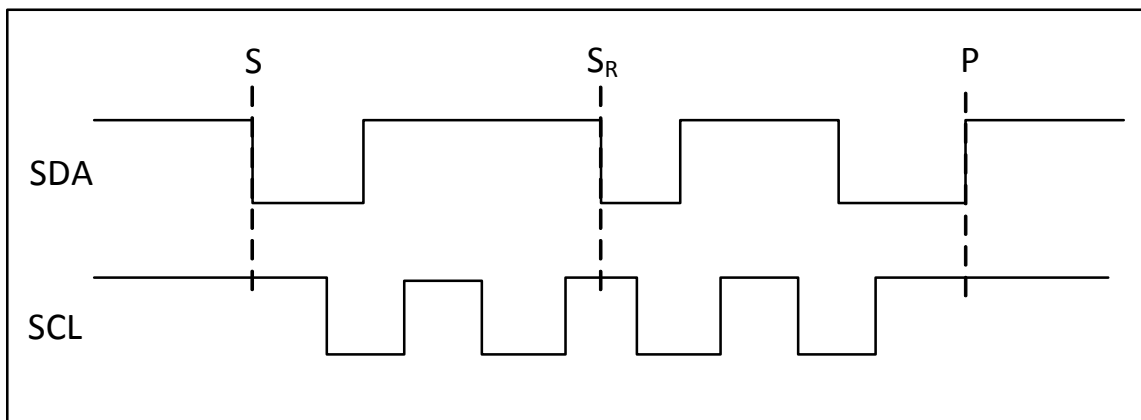
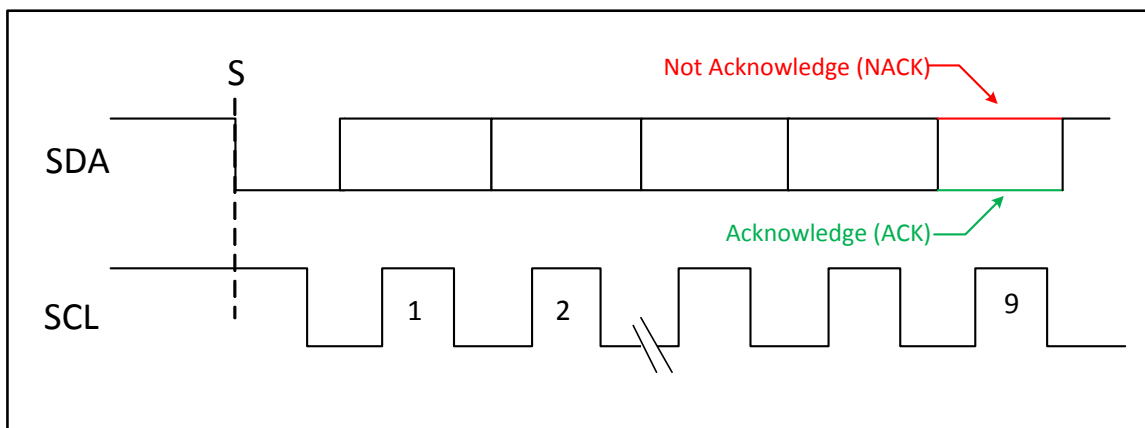

Figure 9. Start and Stop Conditions
Figure 10. Acknowledge Cycle
The I2C/SMBus serial port is a two-wire serial bus where data line SDA is bidirectional and clock line SCL is unidirectional. Reads and writes to this interface by the master are byte-oriented, with the I2C/SMBus master controlling the serial data rates up to 240 kbps. The SDA and SCL lines must be pulled high through pull-up resistors of 5 k $\Omega$  or less. An Si8901 ADC read transaction begins with a START condition ("S" or Repeated START condition "SR"), which is defined as a high-to-low transition on SDA while SCL is high (Figure 9). The master terminates a transmission with a STOP condition (P), defined as a low-to-high transition on SDA while SCL is high. The data on SDA must remain stable during the high period of the SCL clock pulse because such changes in either line will be interpreted as a control command (e.g., S, P SR). SDA and SCL idle in the high state when the bus is not busy. Acknowledge bits (Figure 10) provide detection of successful data transfers, whereas unsuccessful transfers conclude with a not-acknowledge bit (NACK). Both the master and the Si8901 generate ACK and NACK bits. An ACK bit is generated when the receiving device pulls SDA low before the rising edge of the acknowledged related (ninth) SCL pulse and maintains it low during the high period of the clock pulse. A NACK bit is generated when the receiver allows SDA to be pulled high before the rising edge of the acknowledged related SCL pulse and maintains it high during the high period of the clock pulse. An unsuccessful data transfer occurs if a receiving device is busy or if a system fault has occurred. In the event of an unsuccessful data transfer, the bus master attempts communication at a later time. Figure 11A shows the I2C Slave Address Byte and CNFG\_0 byte for the Si8901. Figure 11B and Figure 11C show master/Si8901 ADC read transactions for Demand Mode and Burst Mode, respectively.